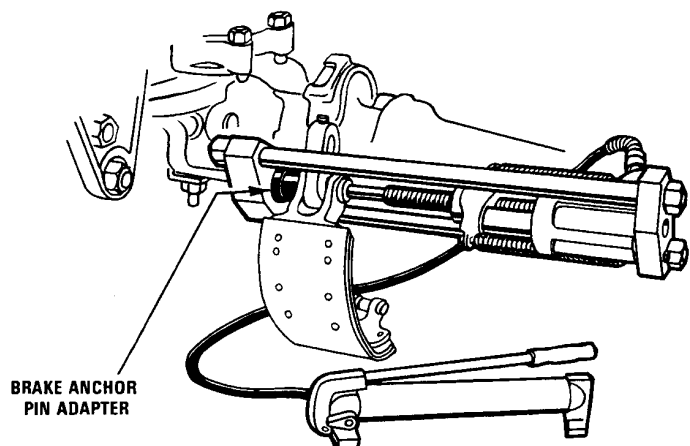

FIGURE 3
8. Position the unit over the brake spider as shown in Figure 3. Check all adjustments for correct alignment and tightness.